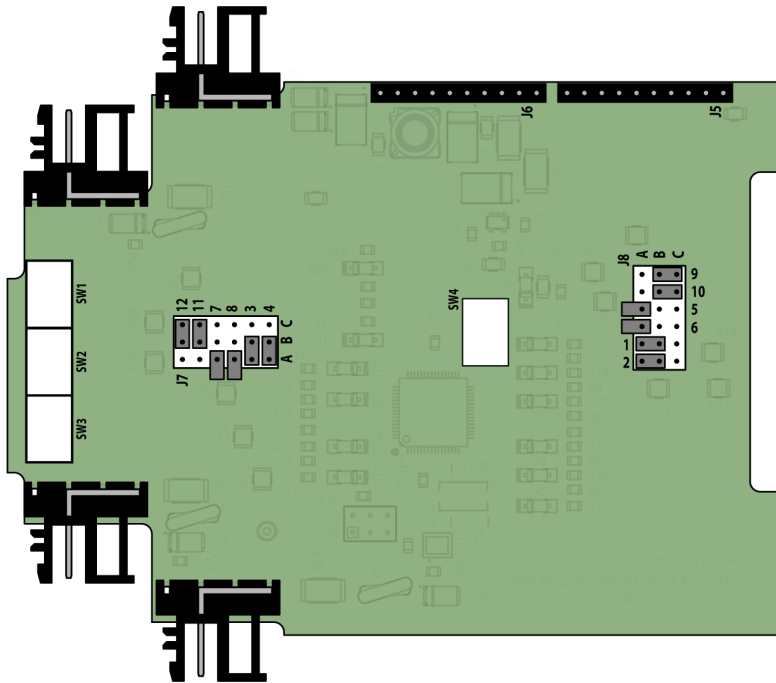

Figure 3 (rotary switch pcb)
Each input is terminated per the position (or absence) of a shunt on a 3-pin header with pins labeled A, B and C. 12 headers, each labeled for an input (1 ... 12), are grouped into 2 blocks (J7, J8) on the (internal) rotary switch pcb (Fig. 3 below).
Example (Fig 3): In1 ... 4: Pull-up (A-B), In5 ... 8: Hi-Z (A), In9 ... 12: Pull-down (B-C)